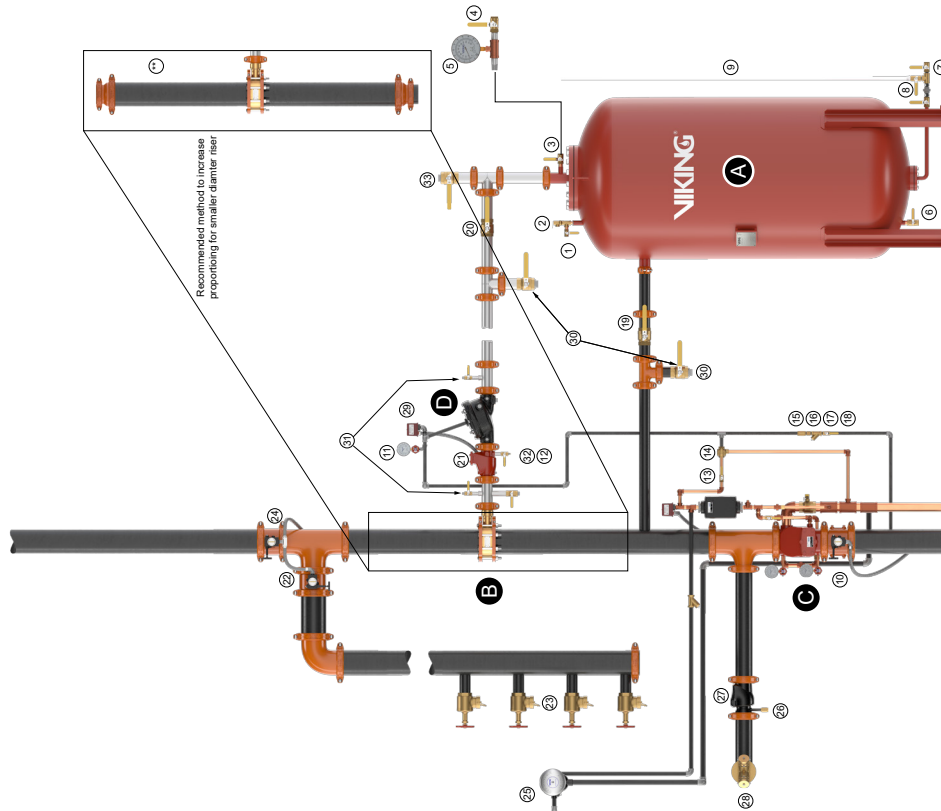

Figure 1
- A. Provide a minimum of 5 pipe diameters of straight pipe on the inlet and outlet of the wide range proportioner (B) to minimize turbulence inside the proportioner. Exception: The outlet for the tank water supply control valve may be connected nearer to the inlet of the proportioner and should not cause excessive turbulence. However, if the outlet to the foam solution test valve (22) is located closer than 5 pipe diameters, there may be turbulence at high flow rates.
- B. The combined total equivalent length of pipe (pipe length, plus equivalent lengths for fittings and valves) on the water supply inlet piping (19) shall be less than 100' (30.5 m) and the foam concentrate discharge piping (20), should be less than 65 equivalent feet (50.3 meters).
- C. The CCV (D) and swing check valve (21) must be connected adjacent to the wide range proportioner using the shortest pipe nipples as possible.
- D. The alarm check valve must be installed using the variable pressure trim and retard chamber to minimize false operation of the CCV (D). The releasing PORV (14) for the CCV (D) is activated by the operation of the alarm valve.
- E. Ball Valve (13) must be left in the open position, except when conducting alarm or flow test. Failure to close this valve before running an alarm or flow test will result in the unwanted discharge of foam concentrate. Once the test is completed, the valve must be returned to the open position, or the foam CCV (D) will not operate, and the foam concentrate will not flow to the wide range proportioner.
- F. The suggested location for a water flow switch, should one be required, is between the outlet of the alarm check valve (C) and the inlet to the ratio controller.
- G. Figure 1 is a general schematic of the required piping arrangement. Refer to the appropriate technical data page for specific information regarding the valve, tank, and related trim and devices.
- J. The CCV (D) requires a 1/2" priming line with CCV priming connection package. This package includes PORV (14), restricted orifice (16), check valve (15), strainer (17) and ball valve (18). Auxiliary drain valve and gauge with 3-way valve are included in the CCV Trim kit along with the plugs required for all other unused connections. Refer to the Viking website to find the correct trim kit part number for the corresponding size of CCV (D).